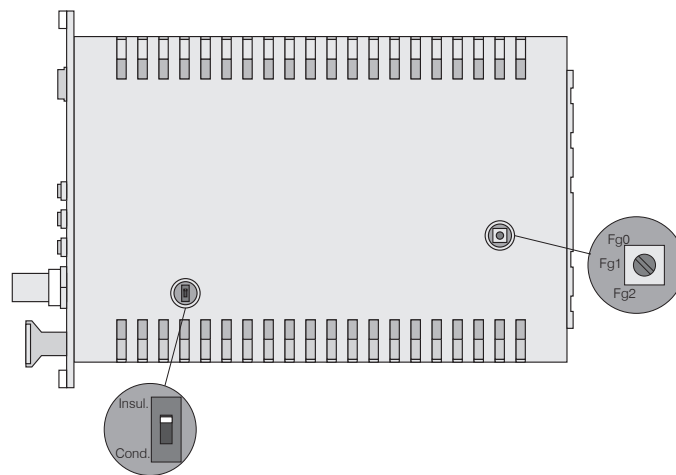

Fig. 27 Switches on board for material selection and limit frequency
Use the slide switch, see Fig. 27, to switch between conducting (Cond.) and non-conducting targets (Insul.). In position Cond. (conductor) only the zero setting with the zero-trimmer is active. The amplifying is set to 0 up to 10 V at the entire measuring range.
The limit frequency of the analog output signal can be set with a rotary switch on the board, see Fig. 27.
- Slide switch on the demodulator in position *Cond.* (Conductor, see Fig. 27)
➡ To do this, move the slide switch on the demodulator board to position *Insul.* (insulating materials, see Fig. 27). Make the necessary linearity adjustment as described, see 5.4.
- Slide switch on the demodulator in position *Insul.* (Insulation, see Fig. 27)